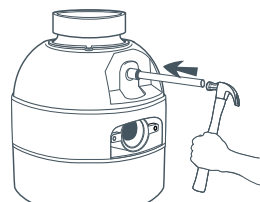

Fig. 6 Connecting to a dishwasher (if required)
- 5 Using a blunt instrument (steel punch or wooden dowel), knock out the entire plug at the end of the dishwasher drain inlet (as shown in fig.6). Do not use a screwdriver or sharp instrument. When the knockout plug falls into disposer, you may remove it or simply grind it up when the disposer is used. This will not damage the disposer in any way, but may take some time to grind, over the course of several uses.
- 6 Connect the dishwasher drain hose to the dishwasher inlet pipe on the waste disposer (fig. 6). Use a clamp to ensure a tight seal. A stepped rubber adaptor (not supplied with the product) may be required if the diameter of the drain hose is larger than the diameter of the waste disposer's inlet connection.